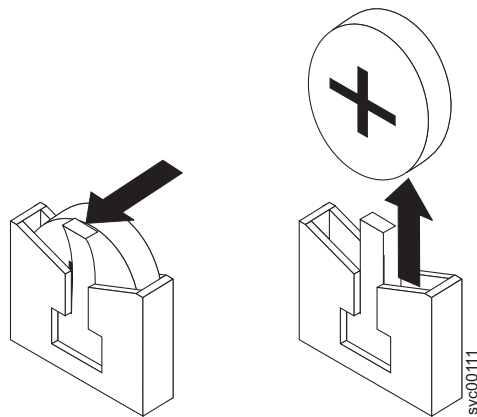

Figure 120. CMOS battery holder
- a. Use one finger to pull the retainer tab that secures the battery to its housing. See Figure 120.